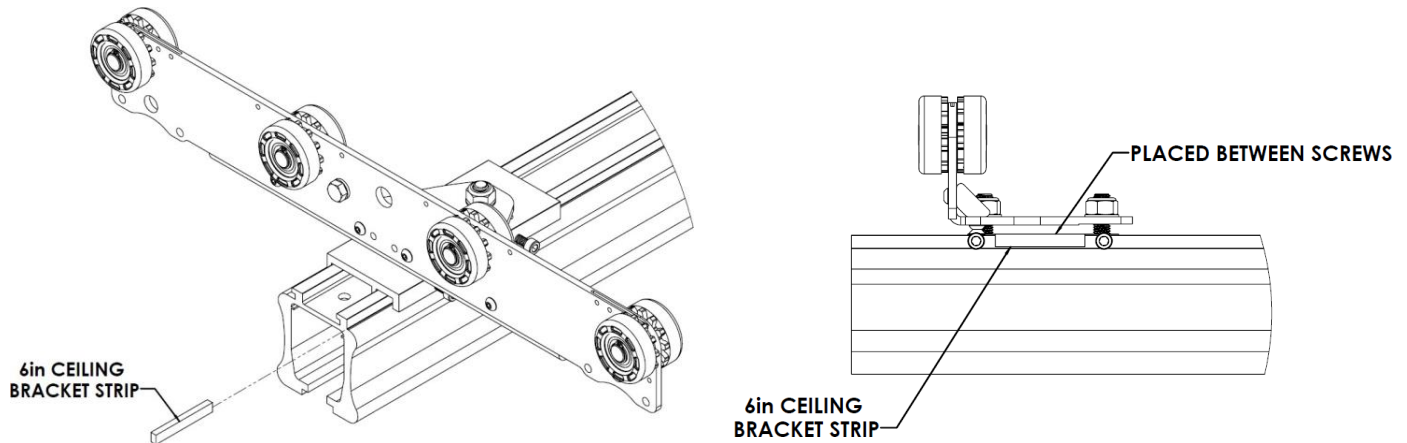

Figure 97: **Bracket Strip Installation**
b. On both gantry brackets, install the included bracket strips (360449) within the track channel and tighten the set screws, as shown in Figure 97. To insert the bracket strip: